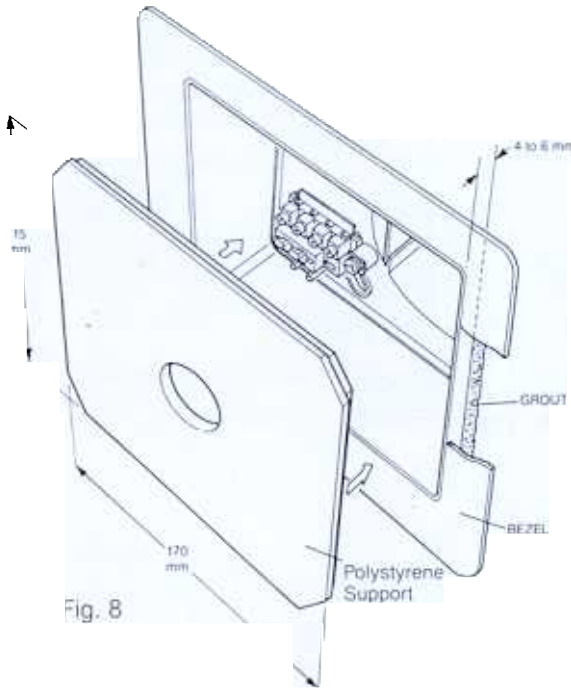

Fig. 8
**6.5** Grout the casing and pipe in place making sure that the top edge of the casing is horizontal, the front protruding and that the tubing is flush with the outside. The pressure of the grouting material may cause the casing to bow, therefore it is recommended that the polystyrene support is used until the grout has set (see Fig. 8). Alternatively, check that the grille is a loose fit within the casing before the grout has set.